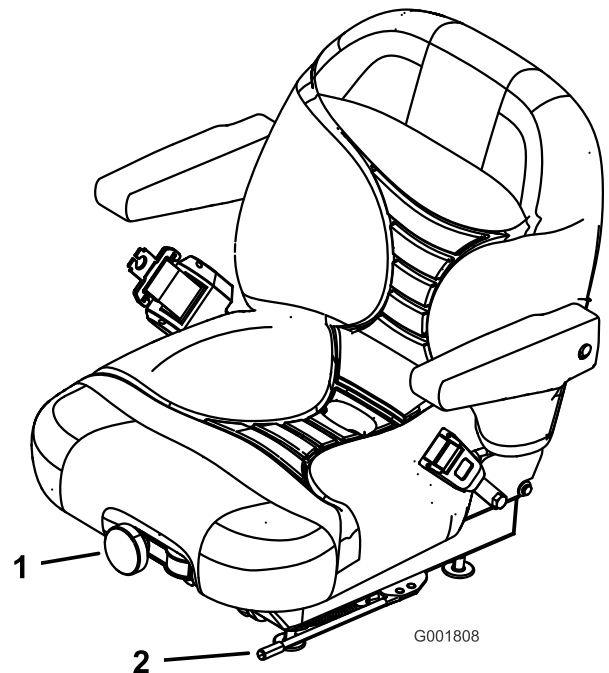

Figure 25
1. To adjust, move the lever sideways to unlock seat (Figure 25).
To adjust it, turn the knob in front either direction to provide the best comfort (Figure 25).